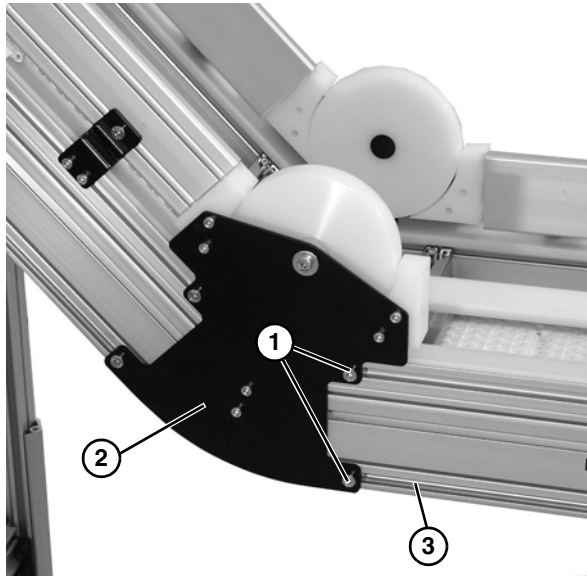

Figure 8
2. Attach lower knuckle to frame by loosening two socket head cap screws (Figure 8, item 1) on each side of lower knuckle assembly (Figure 8, item 2), and sliding T-Nuts into straight frame section (Figure 8, item 3).